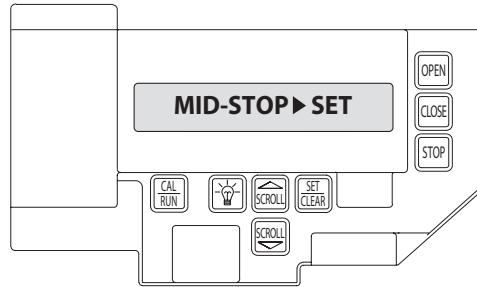

Figure 10
- 3) Press SCROLL  until display reads "MID-STOP >CLR" **Figure 10**